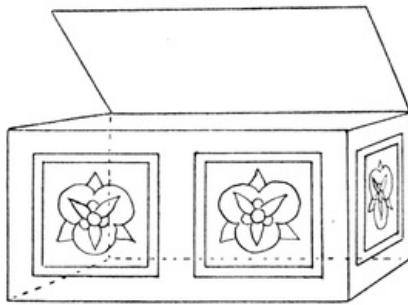

FIG. 14
**An Oak Chest.** Make exactly as for wardrobe, but stand on the long side. Draw panels and colour light brown (Fig. 14). By cutting off the lid and making a handle from it a basket can be made. The children themselves may be able to suggest some of these articles and should be encouraged to.